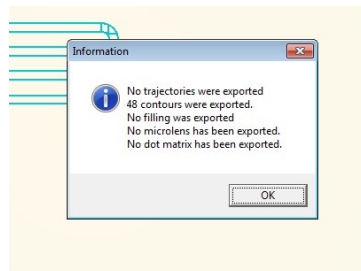

Fig 5 : Generation summary
- First, Kloe Design will ask for a file name and a file location and, after computing the operation, it will display the summary of the elements generated (Fig5), meaning that the generation is complete.